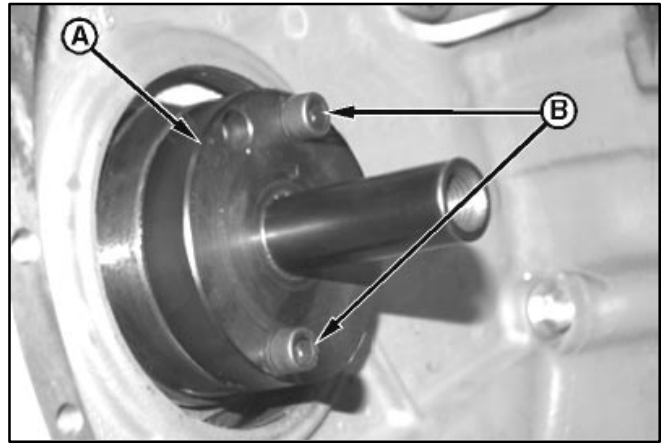

FIGURE 7-41. REAR OIL SEAL INSTALLER TOOL
3. Referring to Figure 7-41, install pilot JT30041A (A) from seal/wear plate installer tool set JT30040B using two 38 mm (1-1/2 in) socket-head cap screws (B). Thread in both cap screws until they touch the base of the pilot and then back them off 1/2 turn.